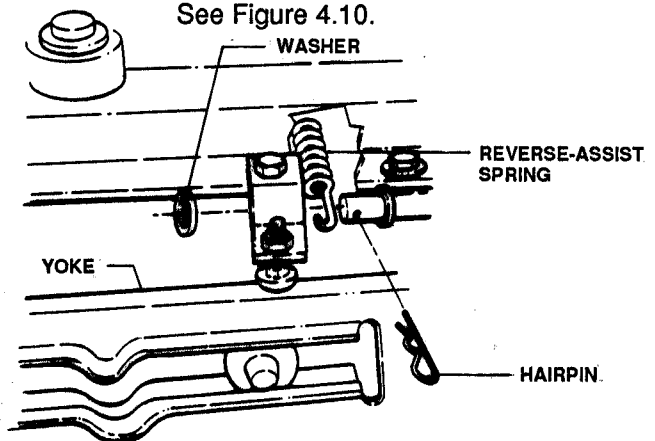

FIGURE 4.10
- E. Remove Hairpin and washer, and slide Reverse-Assist spring off post. See Figure 4.10.
- K. Remove Drive Disc by removing locknut bearings and spacer. Refer to Figure 4.10.